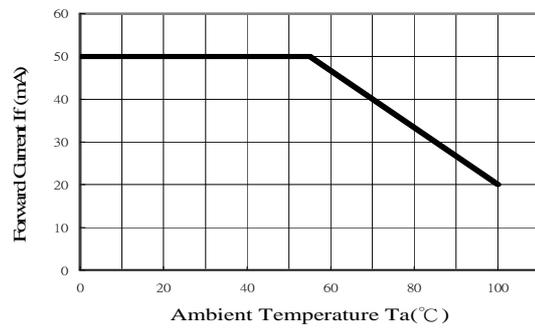

Fig.4. Forward Current vs Ambient temperature (Rθj-a=300°C/W)
2. Derating linear as shown in Fig. 4